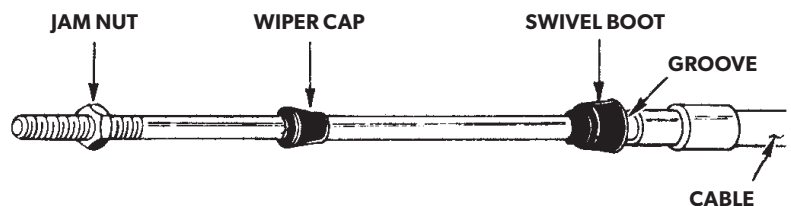

Figure 1.
1. Remove jam nut, wiper cap, and swivel boot from one end of each cable (see figure 1). Save jam nut and wiper cap for reuse.